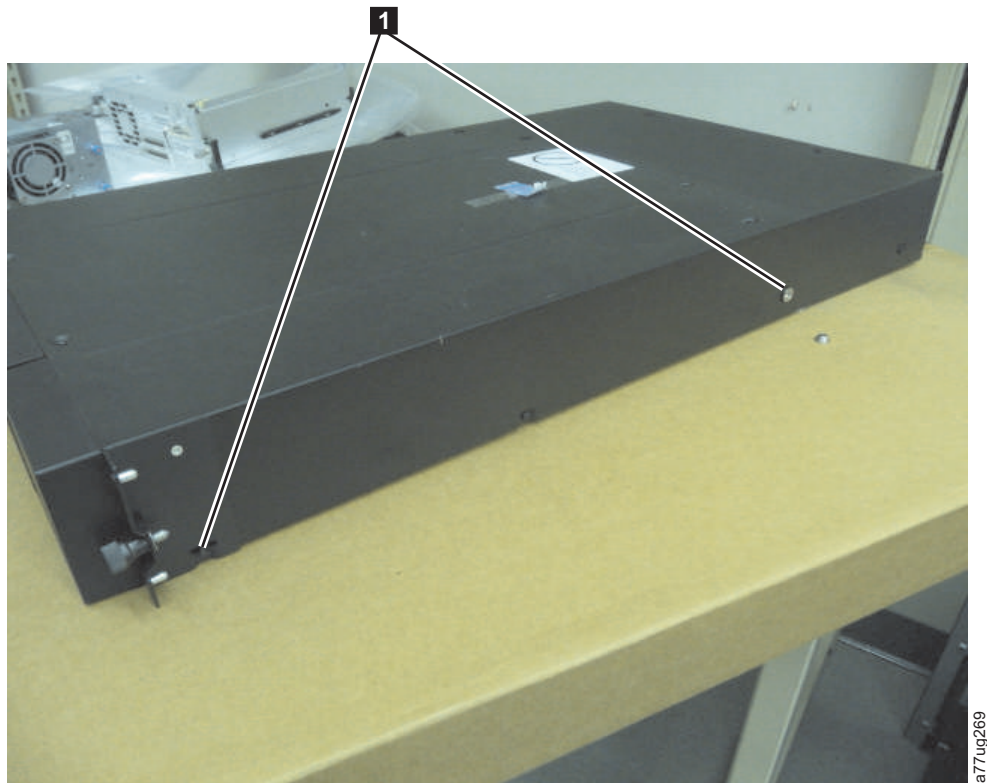

Figure 28. 2U library rack anchors and mounting brackets
4. With the Torx wrench included in your shipment, remove the screws (**1**) as shown in Figure 28 on page 47. Screw locations on the 4U library are similar.
5. Install the library rack anchors (**2**) as shown in Figure 28 on each side of your library with the longest counter-sunk screws included in the rack kit.